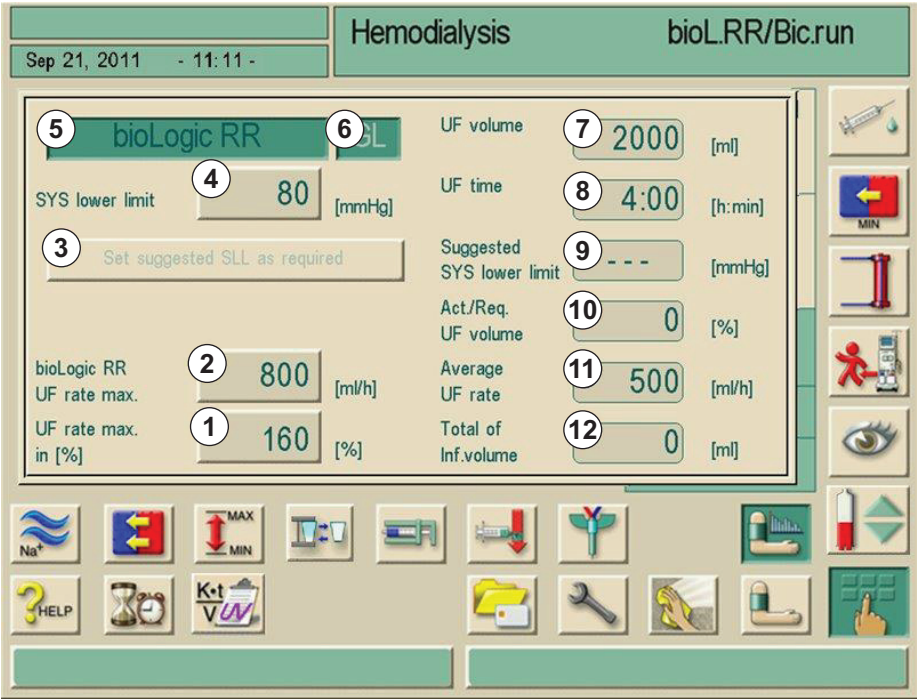

Fig. 11-11 "bioLogic RR Parameter" screen
Additional manual blood pressure measurements can be performed, e.g. during the longer time intervals, and are taken into account by the algorithm. If the measured systolic blood pressure falls to a value of $1.25 \times \text{SLL}$ (systolic lower limit, see Fig. 11-11 "bioLogic RR Parameter" screen (187), 4), blood pressure measurement interval is increased to 5 minutes. If the measured systolic blood pressure falls below SLL, UF rate is reduced immediately until blood pressure increases above this lower limit. The option bioLogic RR Comfort is only available in combination with the option ABPM.
1. Touch the "Set suggested SLL as required" field. The value shown on button 4, Fig. 11-11 "bioLogic RR Parameter" screen (187), is accepted.
2. Touch button 6, Fig. 11-11 "bioLogic RR Parameter" screen (187).